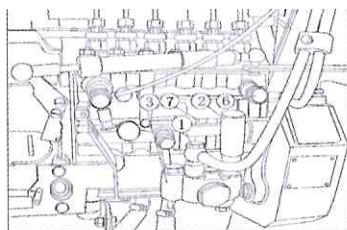

Figure 2-2
- a. Loosen the hollow screw 1 at the outlet of fuel delivery pump by half a turn. Operate the hand pump 2 on the fuel delivery pump 3 until there is diesel fuel overflows and then tighten the screw. As shown in figure 2-2.